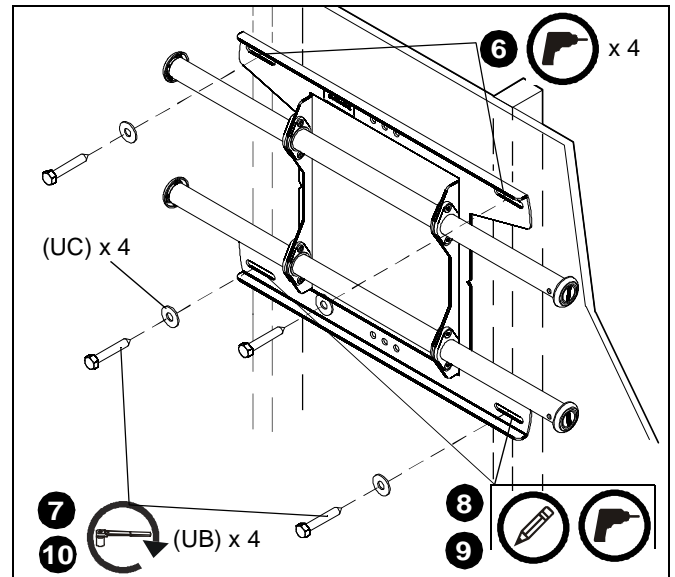

Figure 3
- Use two 5/16 x 2-1/2" lag bolts (UB) and two 5/16" flat washers (UC) to attach top of mount to wall. (See Figure 3)
- Mark the attachment points for the lower mounting slots, making sure the attachment points are located on the studs. (See Figure 3)
- Drill 7/32" pilot holes at markings for lower mounting holes. (See Figure 3)
- Use two 5/16 x 2-1/2" lag bolts (UB) and two 5/16" flat washers (UC) to attach the mount to the wall through the lower mounting holes. (See Figure 3)